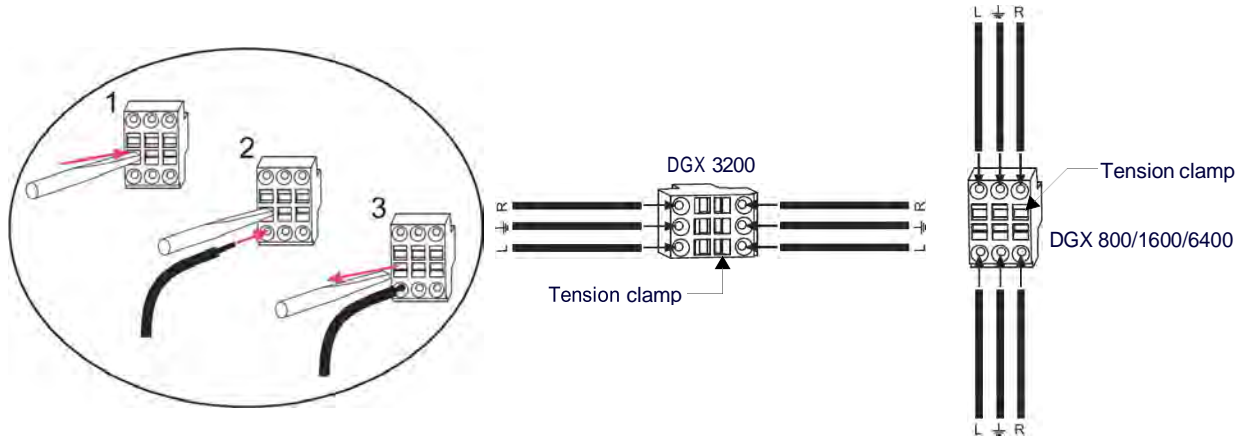

FIG. 109 Audio wiring for AIE Board
3. Remove the screwdriver from the square hole so that the clamp places tension on the wire (FIG. 109):